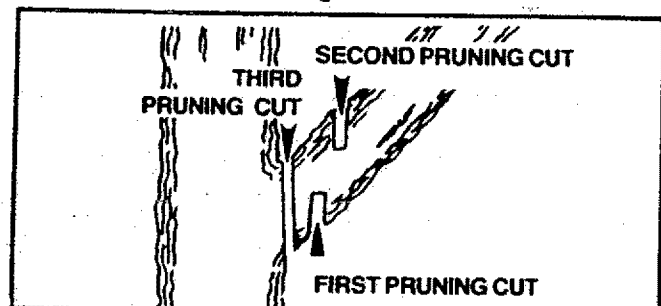

Figure 27
- b. Refer to Figure 27 for the pruning technique.